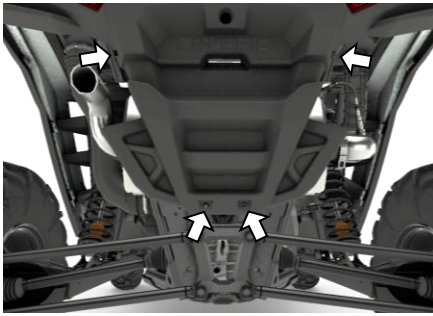

Figure 1
2. Remove the four (4) fasteners securing the lower portion of the rear fascia. This will allow the panel to flex as needed to remove the stock muffler. **Refer to Figure 1.**